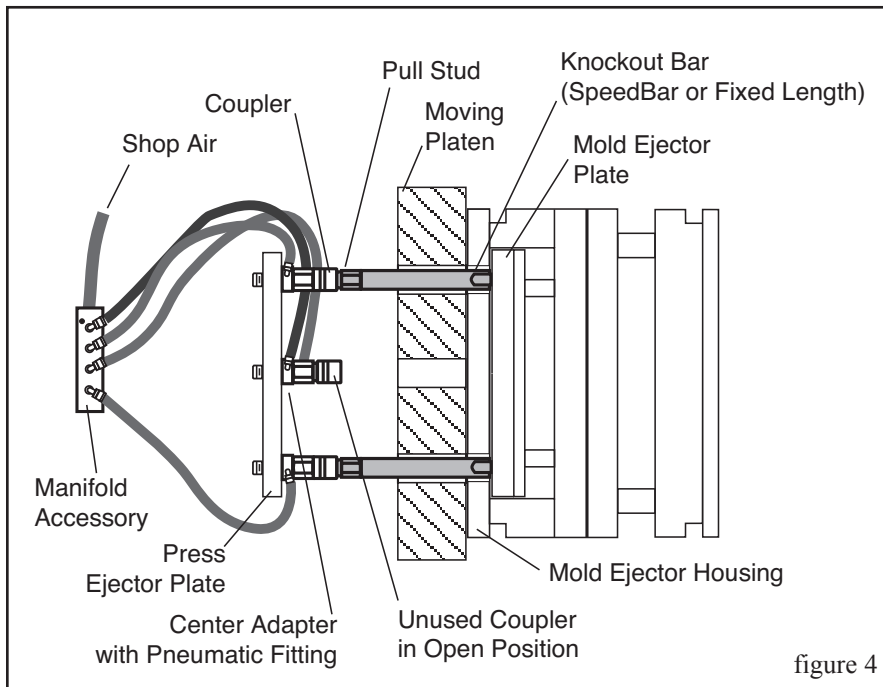

figure 4
2. Install pneumatic fitting to the center adapter per figure 4.